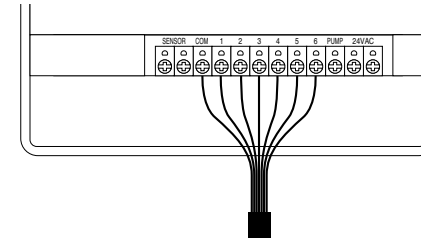

Figure 17: Connecting Valve Wires
- Connect the common wire to the terminal labeled "com" [See Figure 17].